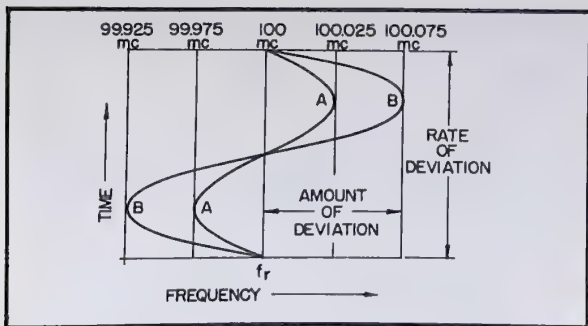

Fig. 11-1. Tank circuit frequency changes.
In radio work, deviation is usually associated with frequency modulated (FM) receivers and used in phrases such as deviation ratio, rate of deviation, deviation distortion, etc. Deviation itself simply means variation. In FM, the frequency of the audio signal determines the number of times per second (rate of deviation) that the radio frequency changes. The amplitude of the AF signal determines the extent of tank circuit frequency change (amount of deviation). A graph representing the changing tank circuit frequency at an audio rate is shown in Fig. 11-1.
The letters  $f_r$  represent the resting frequency of the tank circuit when there is no modulating signal present (in this case  $f_r = 100$  MHz). With a sinusoidal sound source of 500 Hz applied (A in Fig. 11-1), the amount of deviation on either side of the resting frequency is 25 kHz and the rate of deviation is 500 Hz.
When the amplitude of the 500 Hz sound source is increased to B (as shown in Fig. 11-1) the rate of deviation remains constant but the amount of deviation increases to 75 kHz. The oscillator frequency now changes from 99.925 MHz to 100.075 MHz.